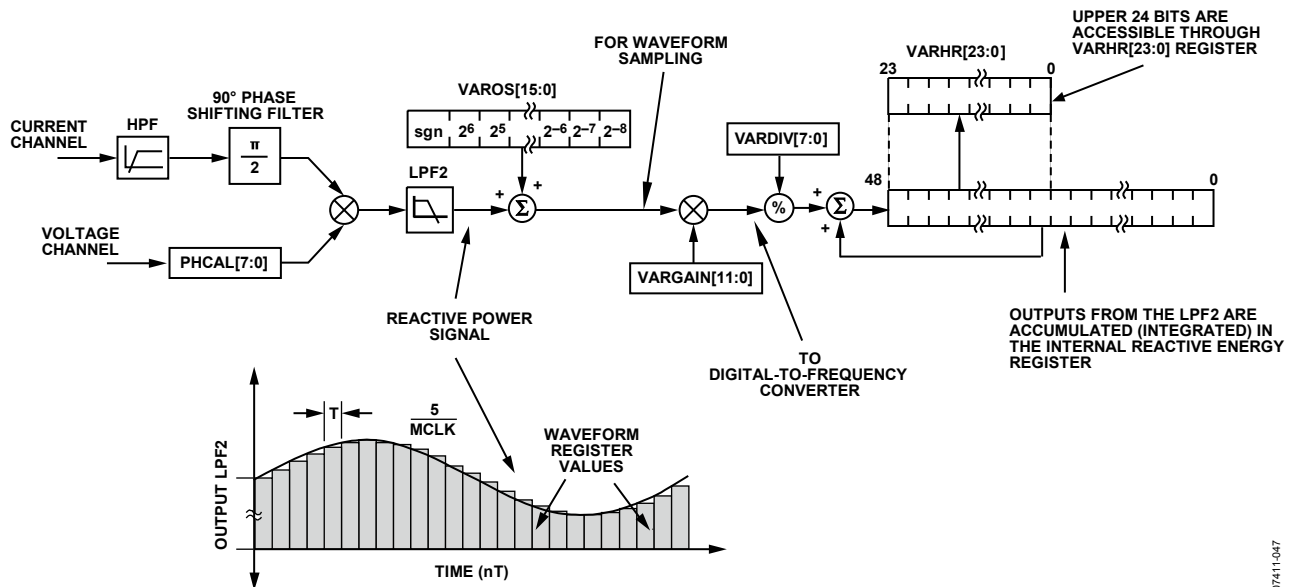

Figure 50. Reactive Energy Calculation
The instantaneous reactive power signal  $q(t)$  is generated by multiplying the voltage and current channels. In this case, the phase of the current channel is shifted by 90°. The dc component of the instantaneous reactive power signal is then extracted by a low-pass filter to obtain the reactive power information (see Figure 50).
Figure 50 shows the signal processing chain for the ADE5569/ADE5169 reactive power calculation. As explained in the Reactive Power Calculation for the ADE5569/ADE5169 section, the reactive power is calculated by applying a low-pass filter to the instantaneous reactive power signal. Note that, when reading the waveform samples from the output of LPF2, the gain of the reactive energy can be adjusted by using the multiplier and by writing a twos complement, 12-bit word to the VAR gain register (VARGAIN[11:0]). Equation 23 shows how the gain adjustment is related to the contents of the watt gain register.
The ADE5569/ADE5169 also incorporate a reactive power offset register (VAROS[15:0]). This is a signed, twos complement, 16-bit register that can be used to remove offsets in the reactive power calculation (see Figure 50). An offset can exist in the reactive power calculation due to crosstalk between channels on the PCB or in the IC itself. The offset calibration allows the contents of the reactive power register to be maintained at 0 when no power is being consumed.
The discrete time sample period (T) for the accumulation register in the ADE5569/ADE5169 is 1.22 μs (5/MCLK). As well as calculating the energy, this integration removes any sinusoidal components that may be in the active power signal. Figure 50 shows this discrete time integration or accumulation. The reactive power signal in the waveform register is continuously added to the internal reactive energy register.
As shown in Figure 50, the reactive power signal is accumulated in an internal 49-bit signed register. The reactive power signal can be read from the waveform register by setting the WAVMODE register (0x0D) and setting the WFSM bit in the Interrupt Enable 3 SFR (MIRQENH, 0xDB). Like the current and voltage channel waveform sampling modes, the waveform data is available at sample rates of 25.6 kSPS, 12.8 kSPS, 6.4 kSPS, or 3.2 kSPS.